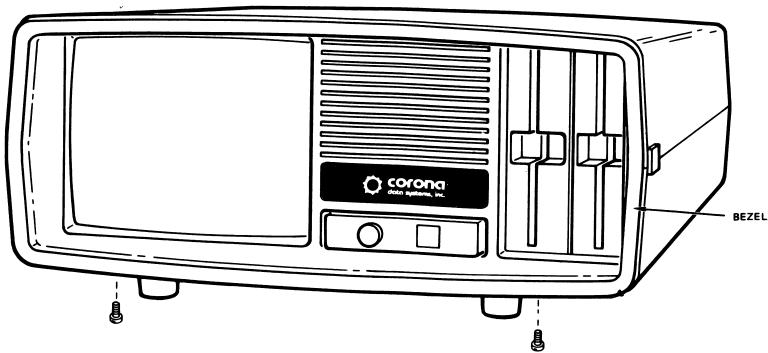

Figure 5-9. Front Bottom Screws
3. Remove two screws from the front bottom of the cover (see Figure 5-9).